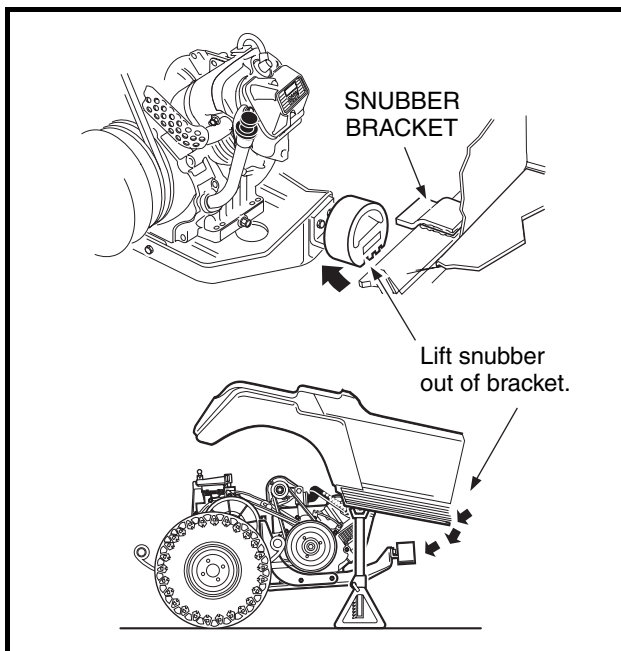

Figure 16-26 Snubber
13. Carefully lift the snubber out of the snubber bracket in the vehicle frame and lower it to the floor (**Figure 16-26, Page 16-11**). The powertrain should be completely disconnected from the vehicle and resting on the floor.